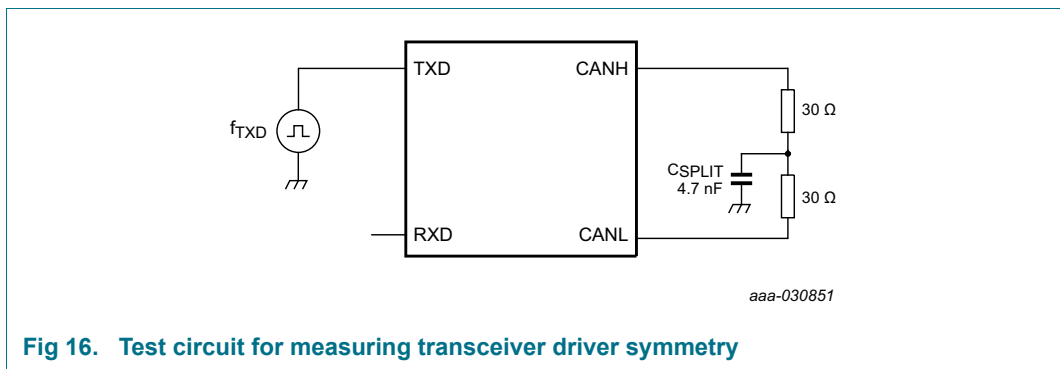

Fig 16. Test circuit for measuring transceiver driver symmetry
- [4] The test circuit used to measure the bus output voltage symmetry (which includes  $C_{SPLIT}$ ) is shown in Figure 16.
(1) Standby Mode: MC = 100, CWE = 1, CAN Offline mode, VBAT = 12 V, IV1 = 0 μA.